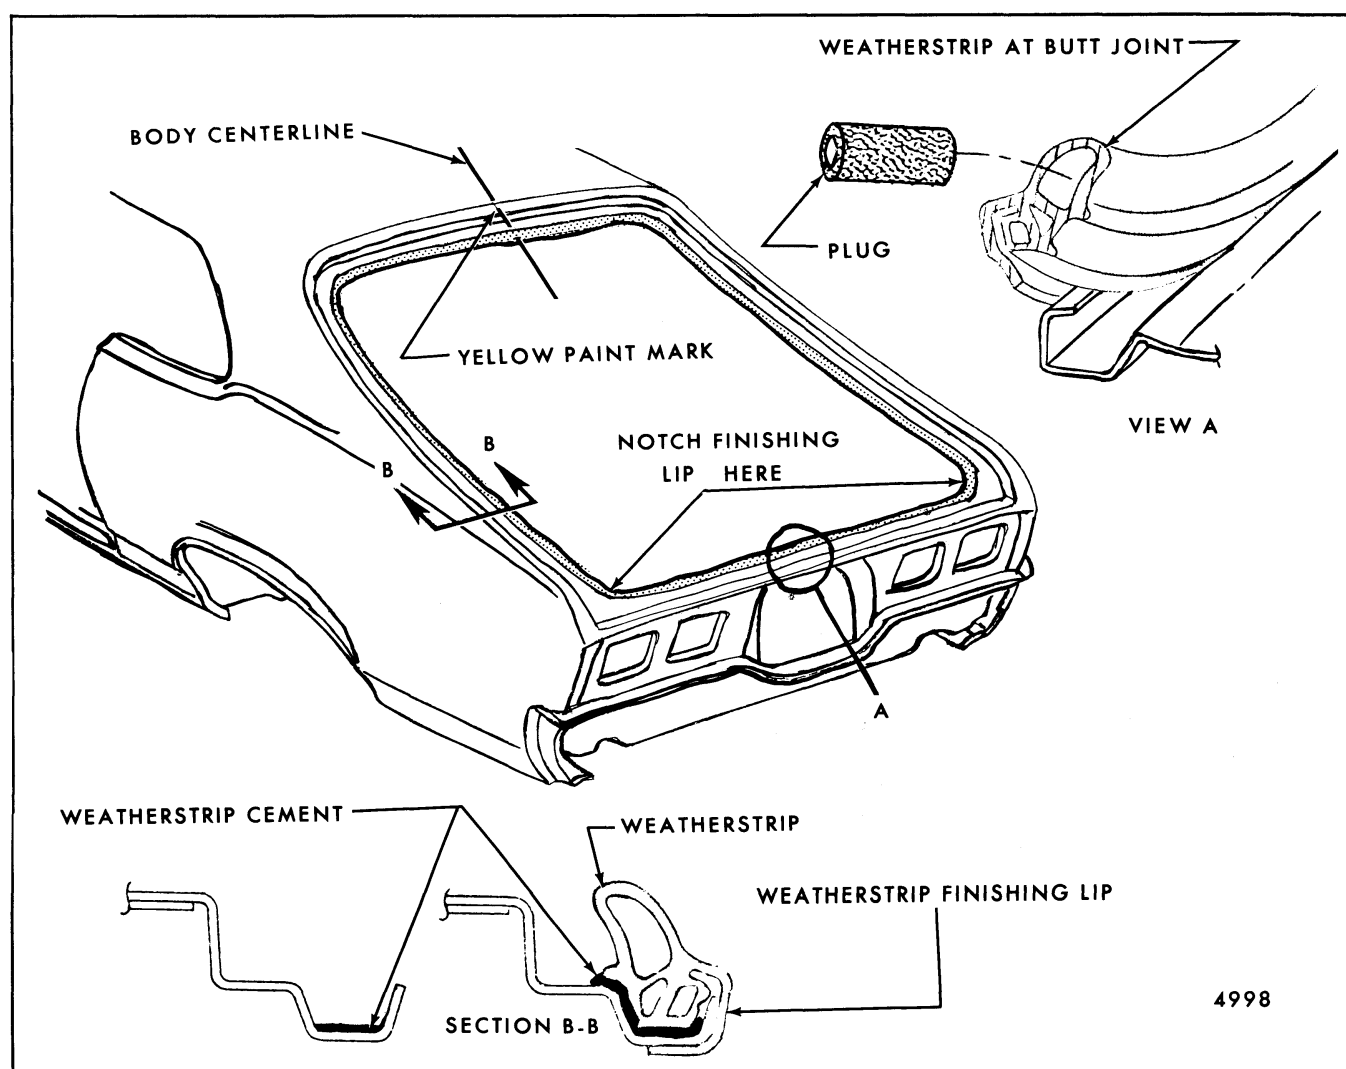

Fig. 7-31 - Rear Compartment Weatherstrip - "X-17" Style
**NOTE:** On "X"-17 style, begin inserting center of weatherstrip (marked with yellow paint) into gutter at forward center of opening between hinges. This is required in order to locate reinforced section of weatherstrip to belt line area (Fig. 7-31). Also, notch finishing lip of weatherstrip at lower corners of opening to improve fit.
**NOTE:** On "X-17" style, insert plug into weatherstrip to maintain shape and form neat joint (Fig. 7-31, View "A").